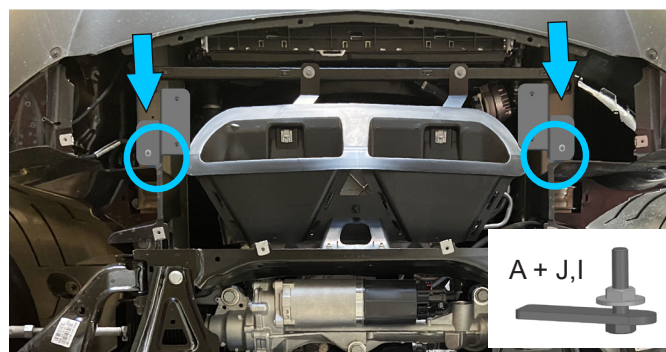

Fig. 2
2. Fix brackets (item 3,4) to the frame, using nuts M8 and washers M8 (item J,I), as shown in fig.2.